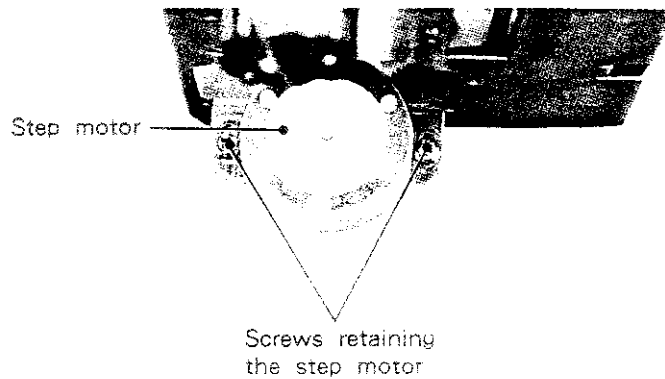

Fig. 2-17
6. Remove screws retaining the step motor. (Fig. 2-17)